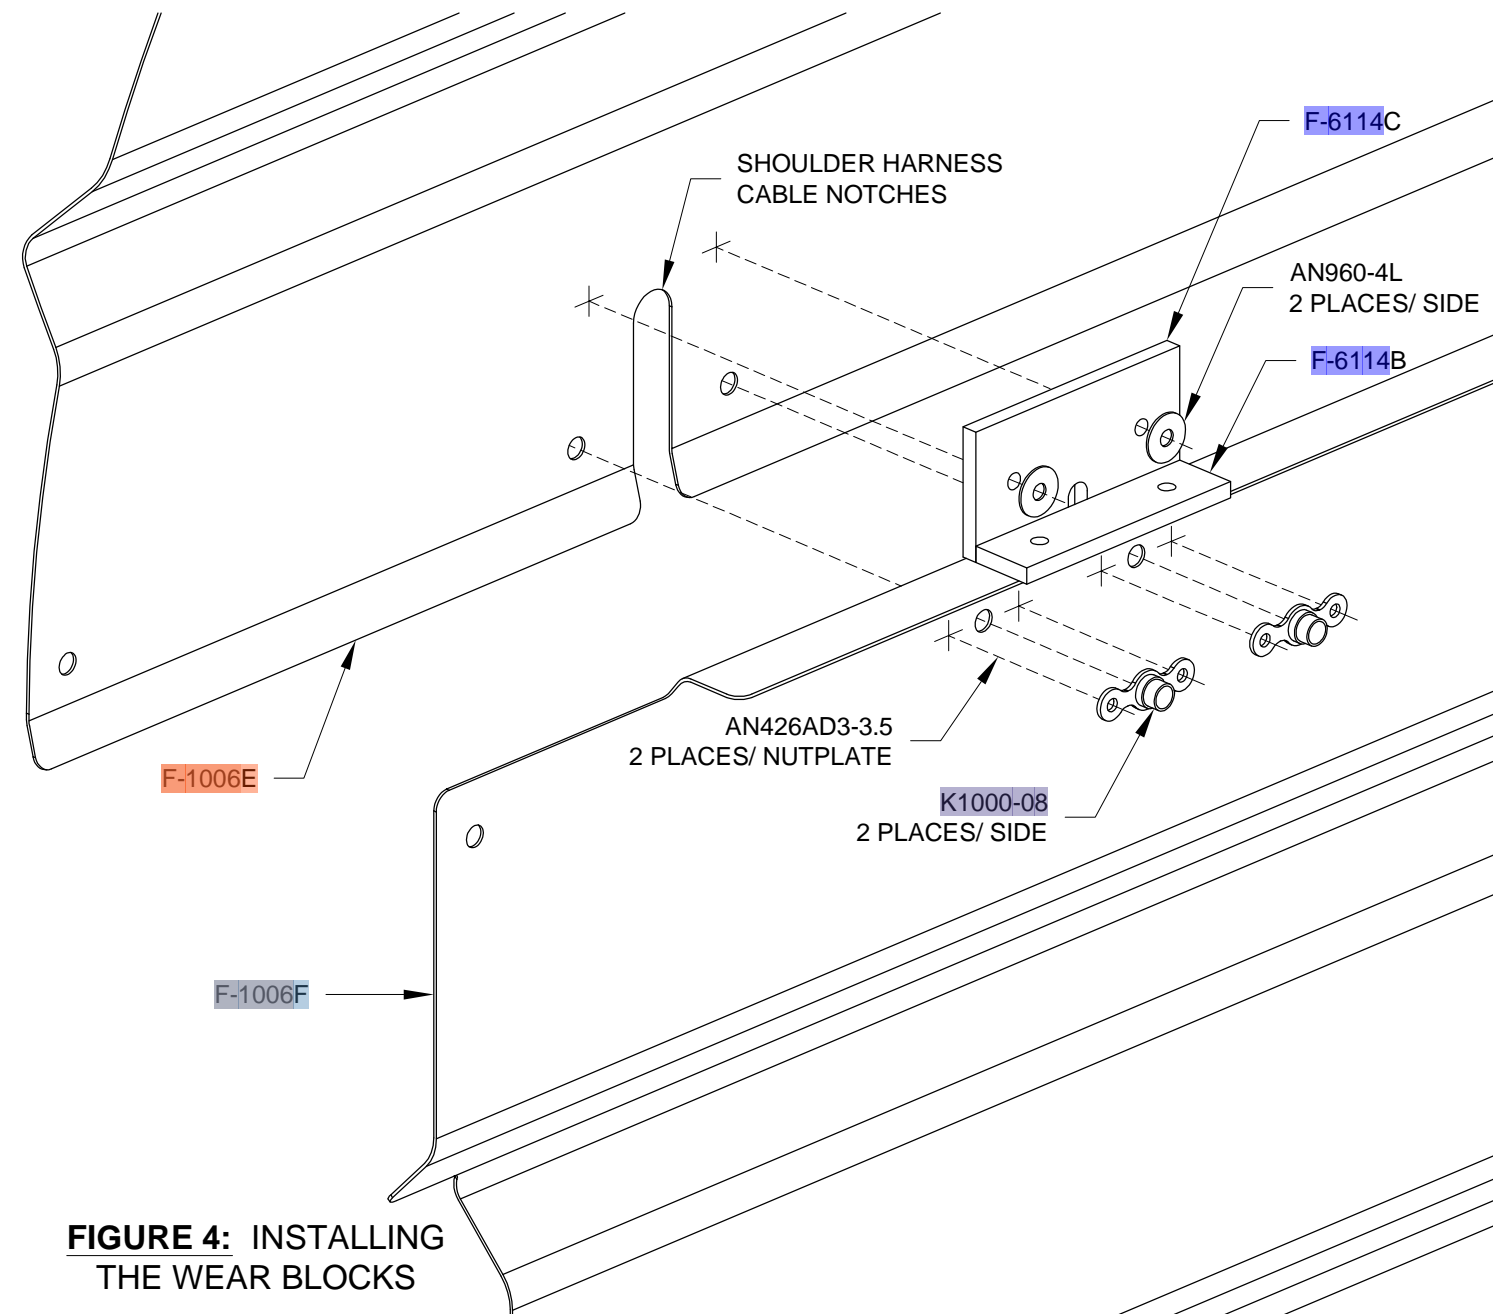

FIGURE 4: INSTALLING THE WEAR BLOCKS
Step 8: Match-Drill #40 the nutplate attachment rivet holes, shown below the F-6114 Wear Blocks in Figure 4, into the F-1006F Lower Baggage Bulkhead Corrugation.
Step 10: Rivet the nutplates shown in Figure 4 to both ends of the F-1006F Baggage Bulkhead Corrugation using the rivets called-out.